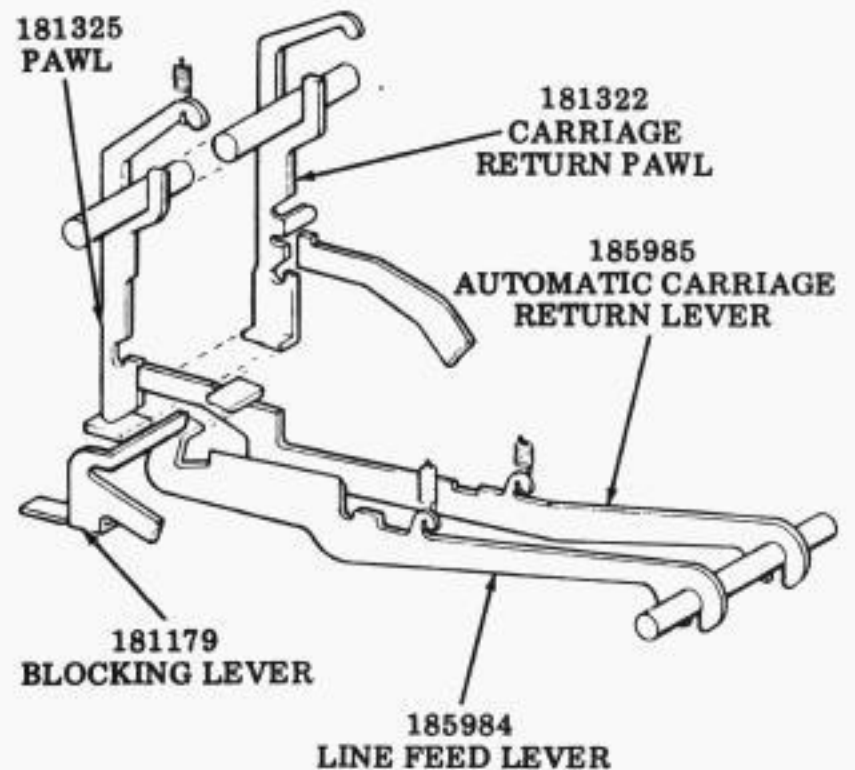

Figure 14 - Carriage Return Function on Line Feed
2.42 Upon receiving the line feed code combination, the 185984 line feed lever senses the combination (see Figure 14) and moves upward to its selected position carrying the 181179 blocking lever with it by engaging its extended tab. As the line feed lever moves upward, the 185985 automatic carriage return lever, which was held down by the tab on the line feed lever, also begins moving upward picking up the 181325 pawl. The motion of this pawl is transferred to the 181322 carriage return pawl through its extension; thus, line feed and automatic carriage return occur simultaneously.